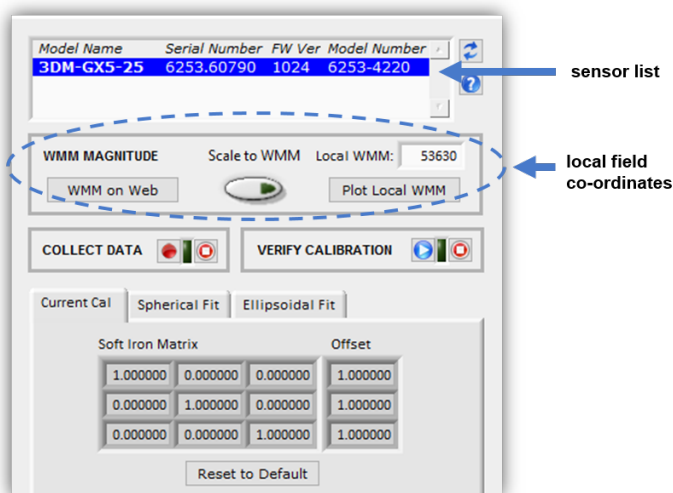

Figure 27 - Sensor Menu
- The sensor should automatically appear in the sensor list. If not, use the Refresh button to query it and then select the sensor (*Figure 27 - Sensor Menu*).